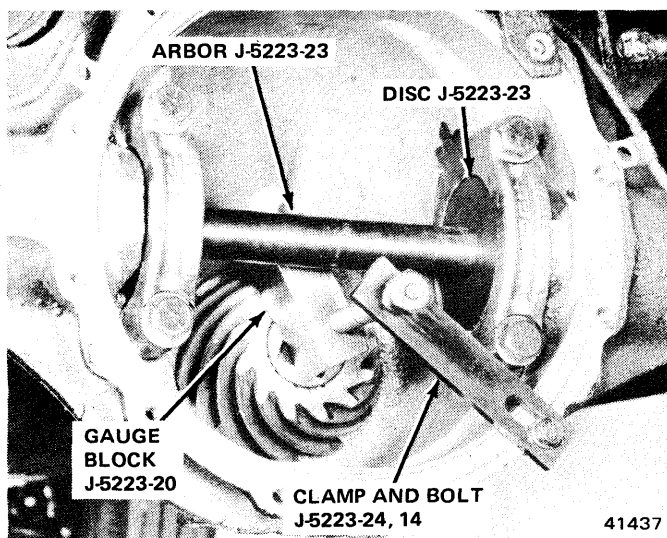
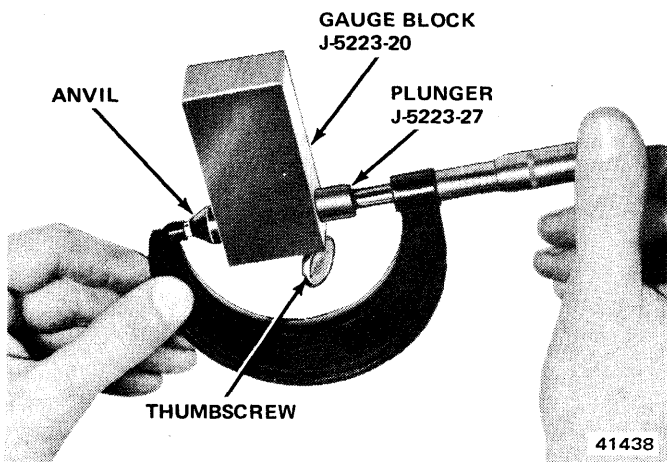

Fig. 10-37 Installing Pinion Depth Gauge Tools
Fig. 10-38 Measuring Gauge Block
(1) Assemble Arbor Tool J-5223-4 and Discs J-55223-23 and install in differential bearing cup bores in axle housing. Be sure discs are seated in bearing bores.
(2) Install bearing caps in axle housing and over discs (fig. 10-37). Tighten bearing cap bolts securely, but not to specified torque.
(3) Position Gauge Block J-5223-20 on end face of pinion gear with anvil end of gauge block seated on gear and plunger underneath Arbor Tool J-5223-4 (fig. 10-37).
(4) Mount Clamp and Bolt Assembly J-5223-24 on axle housing (fig. 10-37). Use housing cover bolt to attach clamp to housing.
(5) Extend clamp bolt until it presses against gauge block with enough force to prevent gauge block from moving.
(6) Loosen thumbscrew in gauge block to release plunger in gauge block. When plunger contacts arbor tool, tighten thumbscrew to lock plunger in position. Do not disturb plunger position.
(7) Remove clamp and bolt assembly from axle housing.
(8) Remove gauge block and measure distance from end of anvil to end of plunger using a 2- to 3-inch micrometer (fig. 10-38). This dimension represents the **measured pinion depth**. Record this dimension for assembly reference.